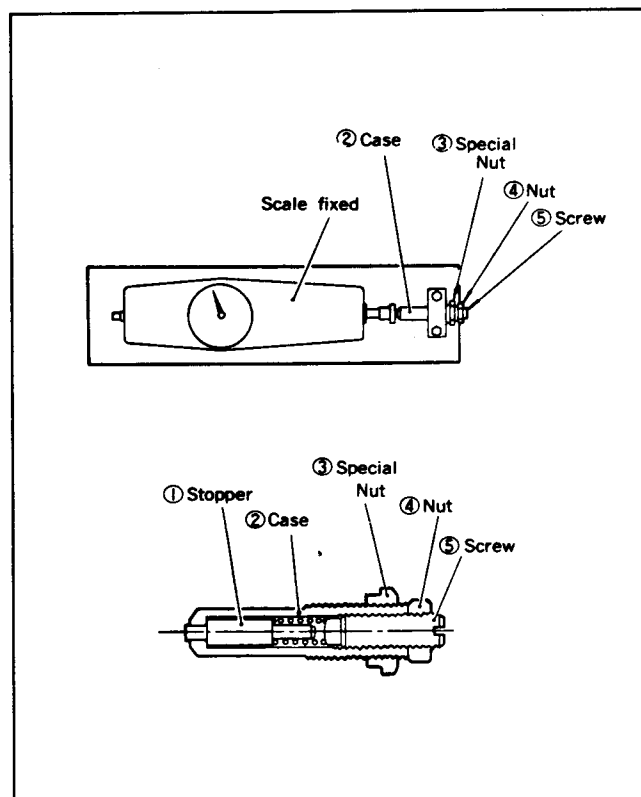

Figure 37
1. Assemble the torque spring set as shown in Figure 37.
3. Set dial on spring scale to zero (0). Tighten spring case until a value of $570^{+10} - 0$ grams is obtained. Lock the spring case in that position with special nut.